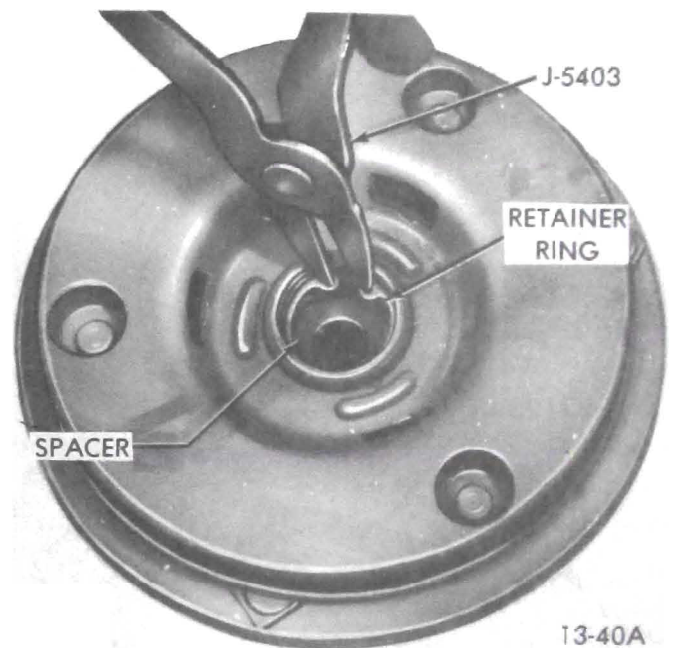

Figure 13-25 - Removing or Installing Retainer Ring in Clutch Drive Plate
4. Using No. 21 Truarc pliers (J-5403) take out retainer ring from hub of clutch drive plate (see Figure 13-25). Lift out spacer.
12. Reassemble retainer ring into hub of clutch drive plate (see Figure 13-25) using No. 21 truarc pliers (J-5403).